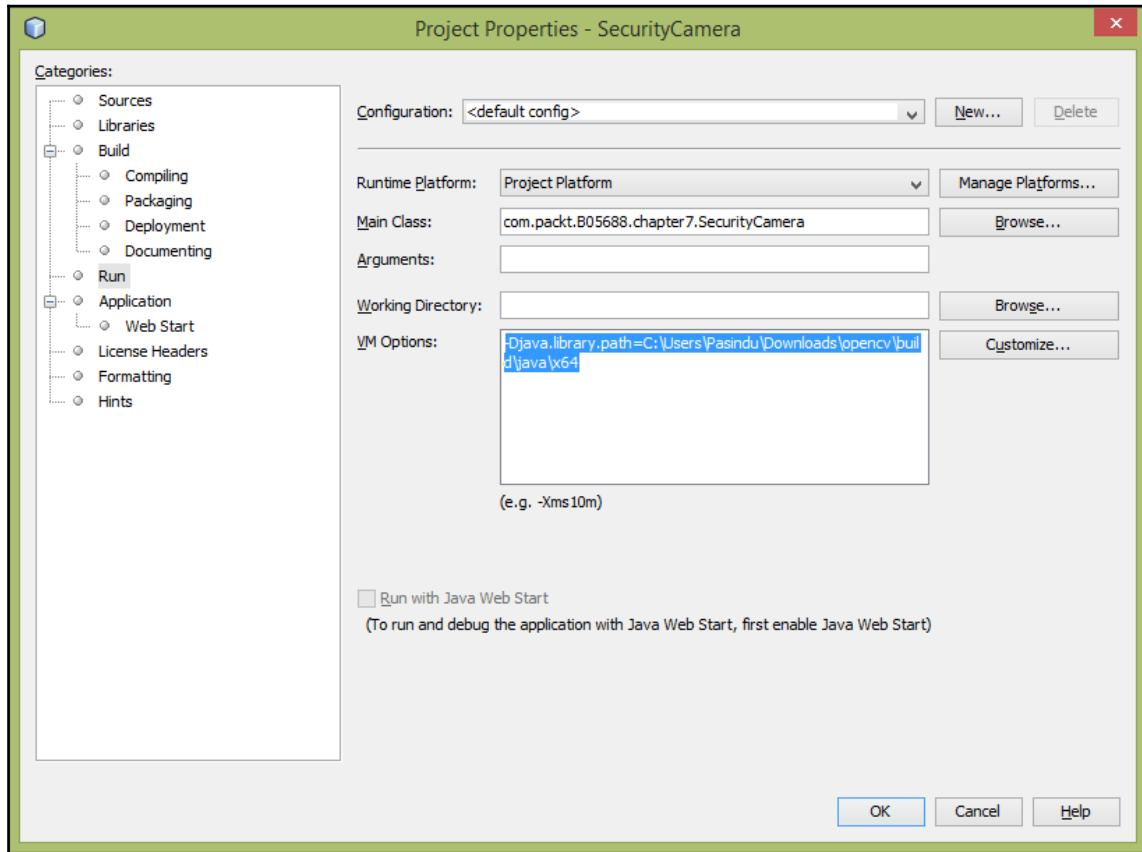

Figure 7-12: Project Properties - Security Camera
9. In the **Project Properties** dialog box, under **Categories**, click the **Run** node. Type the following in the **VM Options** text box (Figure 7-12):